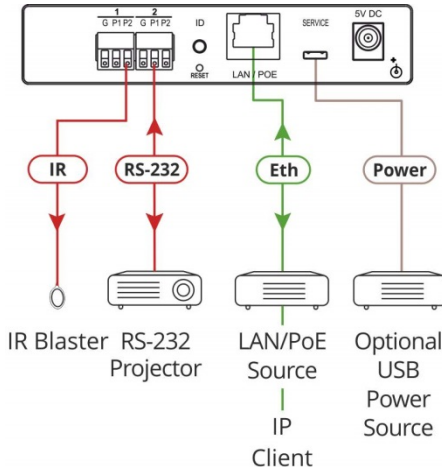

Figure 5: Connecting the FC-6P Ethernet Gateway – Serial/IR
To connect the FC-6P as illustrated in the example in Figure 5:
4. Connect the device to a USB power port or to a USB power adapter or to an optional 5V DC power adapter and connect the power adapter to the mains electricity (not shown in Figure 5).